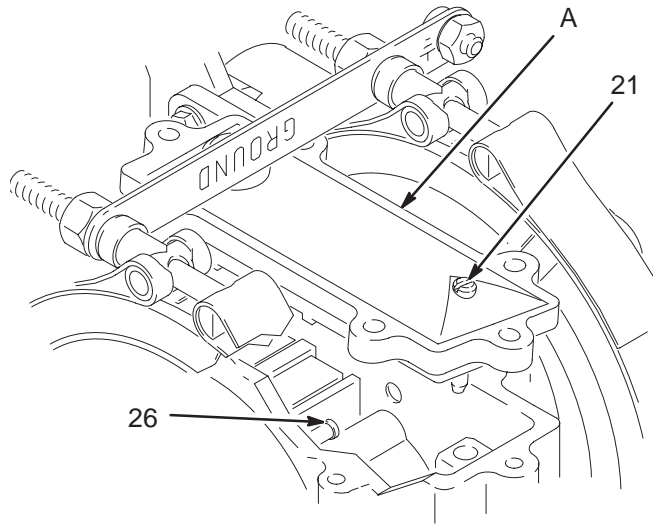

Fig. 12
15. Align the air valve assembly (A) so the reset shaft (21) is at the top and the valve is angled away from the protruding pilot pin (26), then slip it into position. See Fig. 12. **Do not force the air valve down onto the pin.** If the pin is interfering with the actuator link (16), make sure the valve is shifted away from the pin (see step 14), then reposition the valve.
**NOTE:** This example shows how to shift the air valve when a pilot pin (26) is protruding as shown in Fig. 12. If the pin on the other side of the air valve is protruding, the valve should be shifted in the reverse of this example.